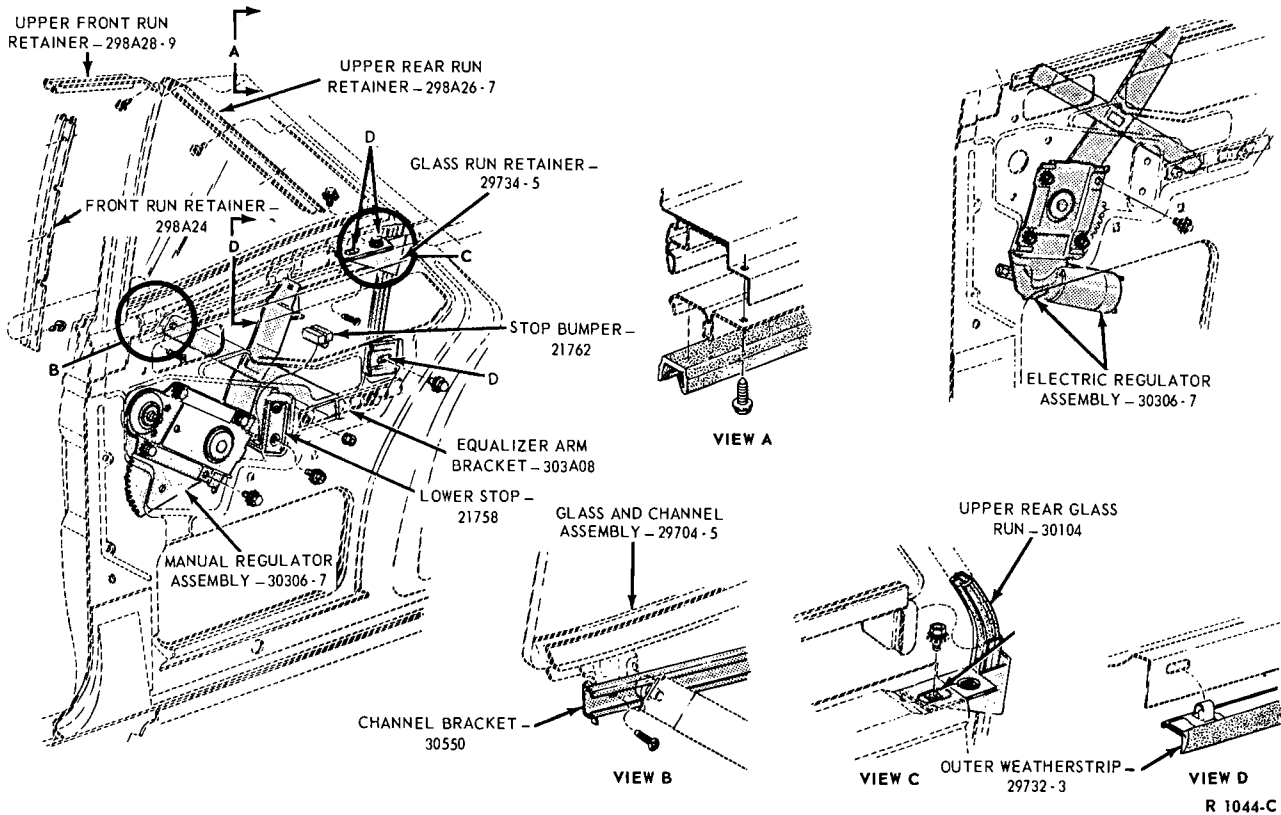

FIG. 7—Quarter Window Mechanism—Falcon, Mercury Intermediate, Fairlane—Model 62
2. To obtain proper clearance between the quarter window assembly and the quarter window glass run retainer assembly, operate the window to its full down position, loosen screw and washer assembly D, and adjust the retainer assembly forward. After adjustment, tighten the screw and washer assembly finger tight (Fig. 7).